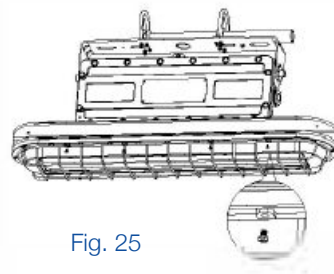

Fig. 25
2. Before installing the fixture, put a wire guard on the fixture cover (Fig. 25).